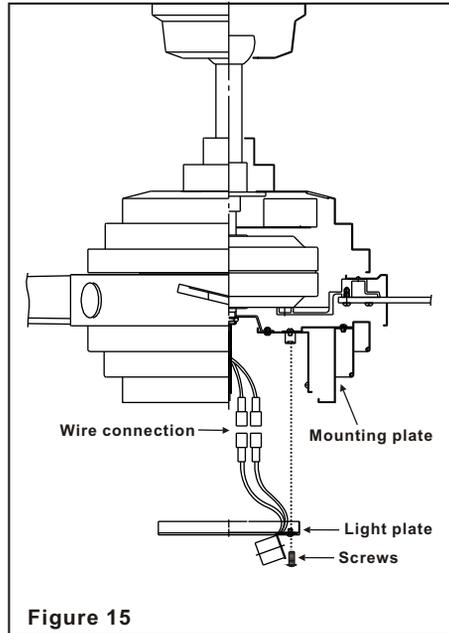

Figure 15
2. Install the light plate onto the mounting plate with 3 screws provided. Be sure to tighten all screws. (Fig. 15)